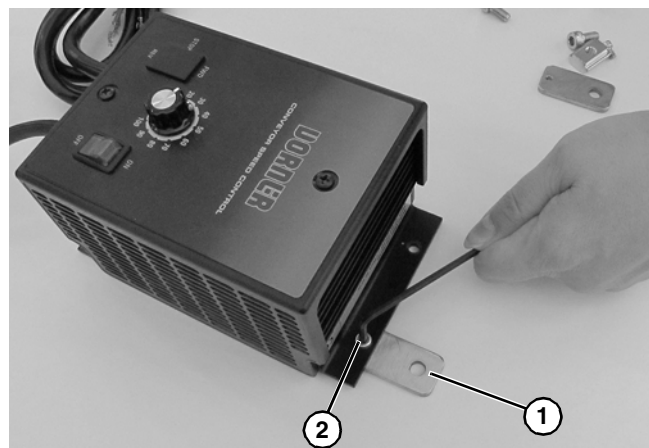

Figure 3
1. Assemble mounting clips (**Figure 3, item 1**) with screws (**Figure 3, item 2**) to the top of the controller.